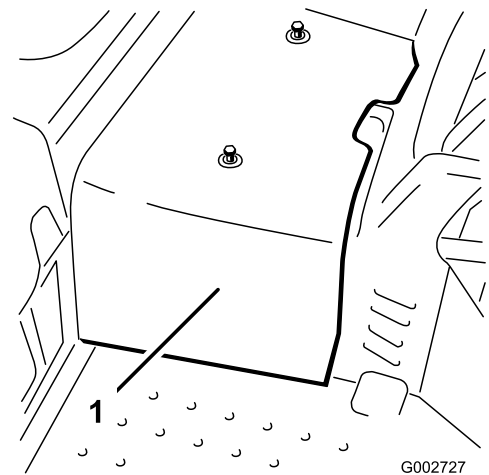

Figure 38
2. Remove the 2 screws securing the center shroud to the machine and remove the shroud (Figure 38).